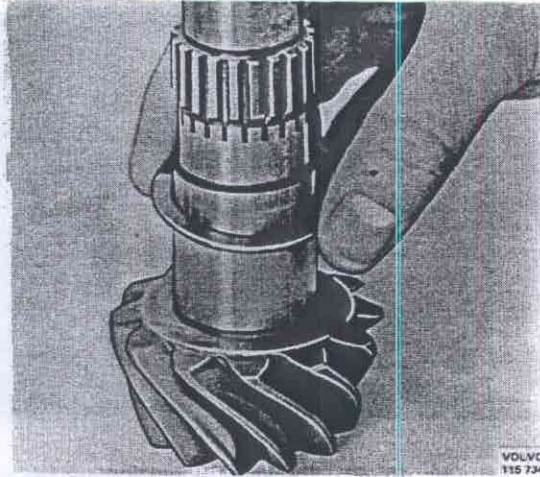
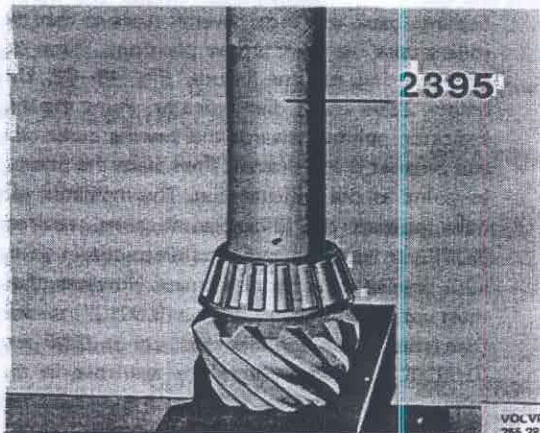

Fig. 46-63. Installing shims
Fig. 46-64. Pressing on the bearing
6. Place the requisite number of shims on the pinion, Fig. 46-63. Press on the bearing with 2395, Fig. 46-64.